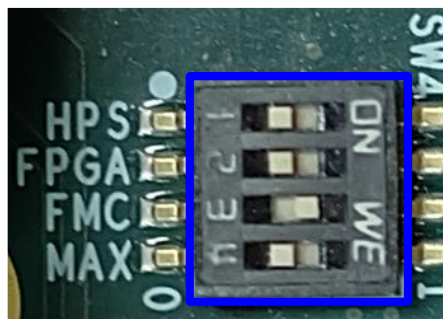

Figure 1-6 Enable FPGA and MAX JTAG on CycloneV SoC and ArriaV SoC board
- For CycloneV SX SoC/ArriaV ST SoC board, set JTAG enable at SW4 as shown in Figure 1-6 to enable FPGA and MAX in JTAG chain.